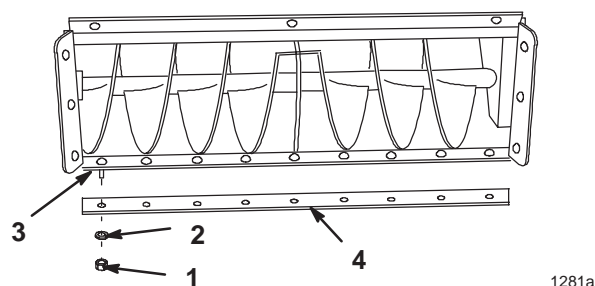

Figure 21
3. Remove nuts, washers, carriage bolts and scraper blade (Fig. 21).
4. Replace scraper blade and install with previously removed hardware (Fig. 21).